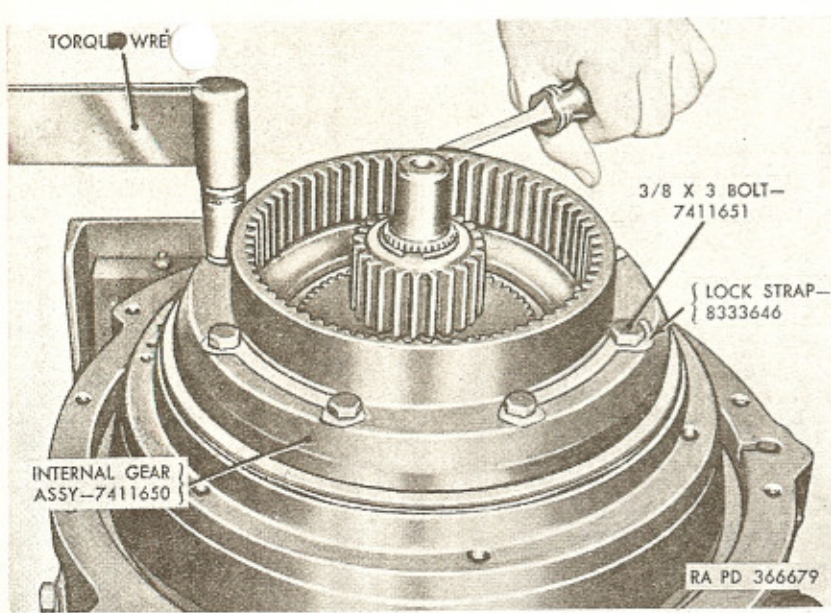

Figure 218. Tightening internal gear attaching bolts (303M).
s. Install eight $\frac{3}{8}$ x 3 bolts and four new lock straps which attach reduction unit internal gear assembly (fig. 218) to reduction clutch drum. Tighten bolts evenly to 28 to 33 pound-feet torque. Wedge a screwdriver between bolt and gear to hold drum while tightening bolts. Using large pliers, bend edges of lock straps up against flats of bolt heads.